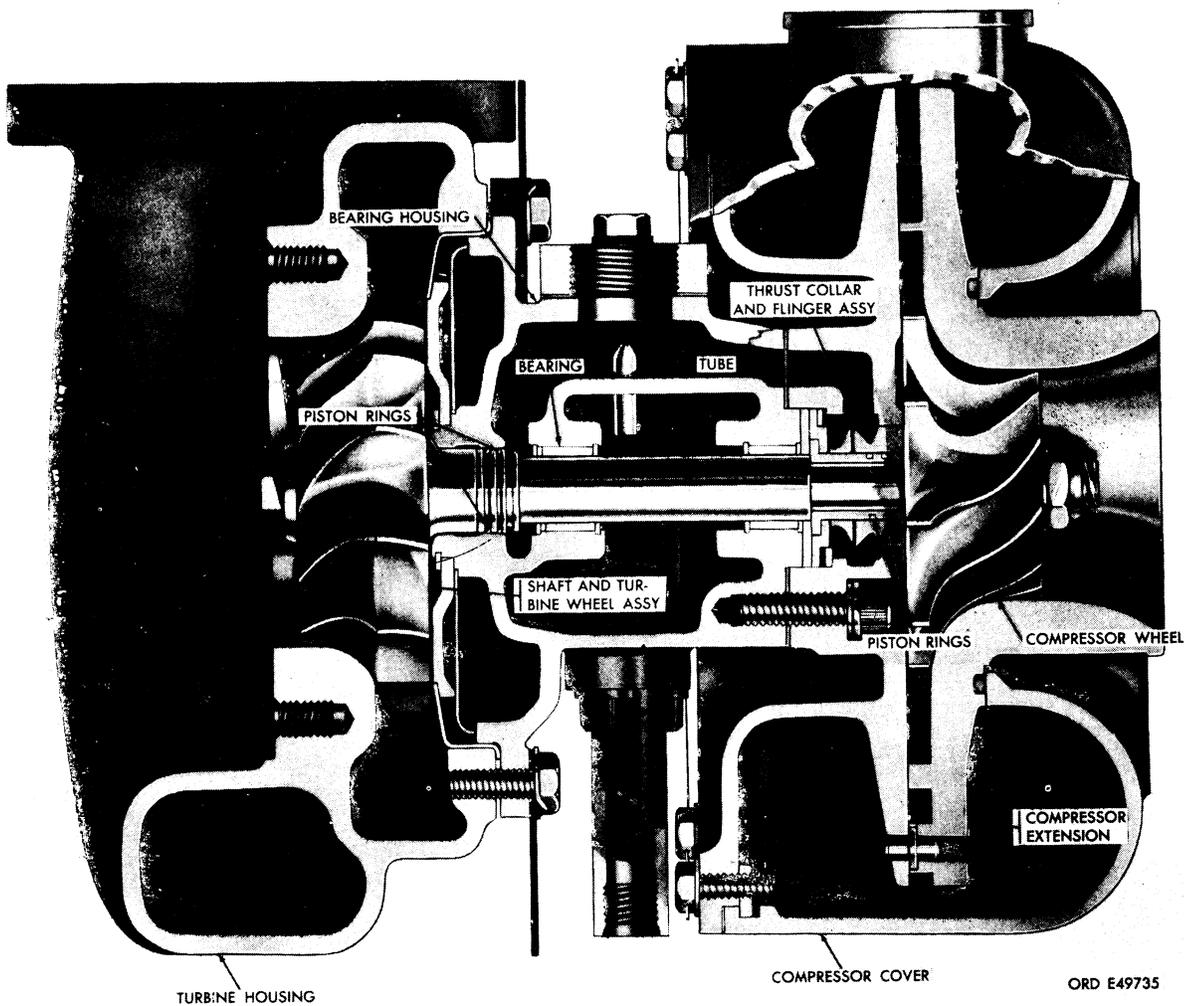
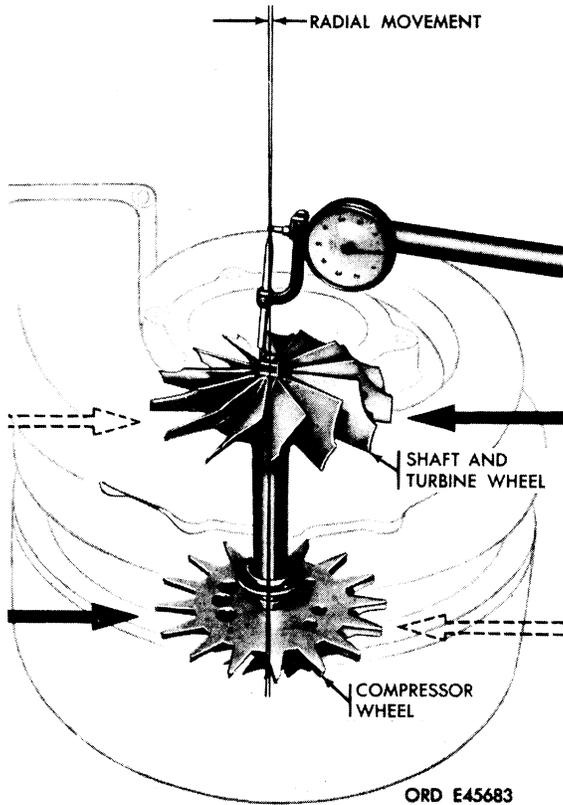

FIGURE 5. TYPICAL TURBOCHARGERS 7748900 AND 10935279 - SECTIONAL VIEW.
FIGURE 9. CHECKING SHAFT AND TURBINE WHEEL AND COMPRESSOR WHEEL RADIAL MOVEMENT.
in engine exhaust gases. Exhaust gases, forced out of the engine, drive a shaft and turbine wheel (figs. 5 and 6) which drives the compressor wheel. The compressor is basically a centrifugal blower that increases velocity of air entering engine intake manifold.
a. *General.* Troubleshooting the turbocharger before disassembly is essential in determining what parts are unserviceable and must be repaired or replaced during overhaul. The shaft and turbine wheel (figs. 5 and 6), sleeve bearings, and thrust washers are parts likely to show the most wear. Figures 9 and 10 below, show the necessary steps in determining excessively worn parts.
tach a dial indicator to turbocharger with a clamp or magnetic base holder. Position dial indicator point against flat of square end of turbine shaft as shown in figure 9. Check shaft and turbine wheel radial movement as follows: